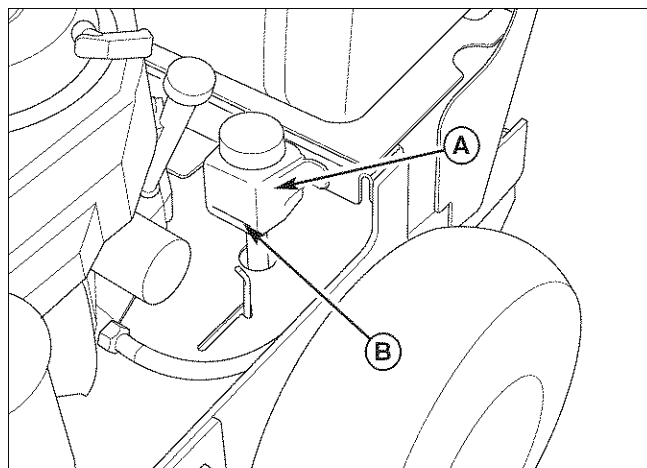

Figure 21. Transmission Oil Reservoir (LH Shown)
1. Check the oil level when the unit is cold. Locate the transmission oil reservoirs (A, Figure 21) located on the by the fuel tank. The oil should be up to the "FULL COLD" mark (B). If the oil is below this level, proceed to step 2.
3. Add oil up to the "FULL COLD" mark (B).